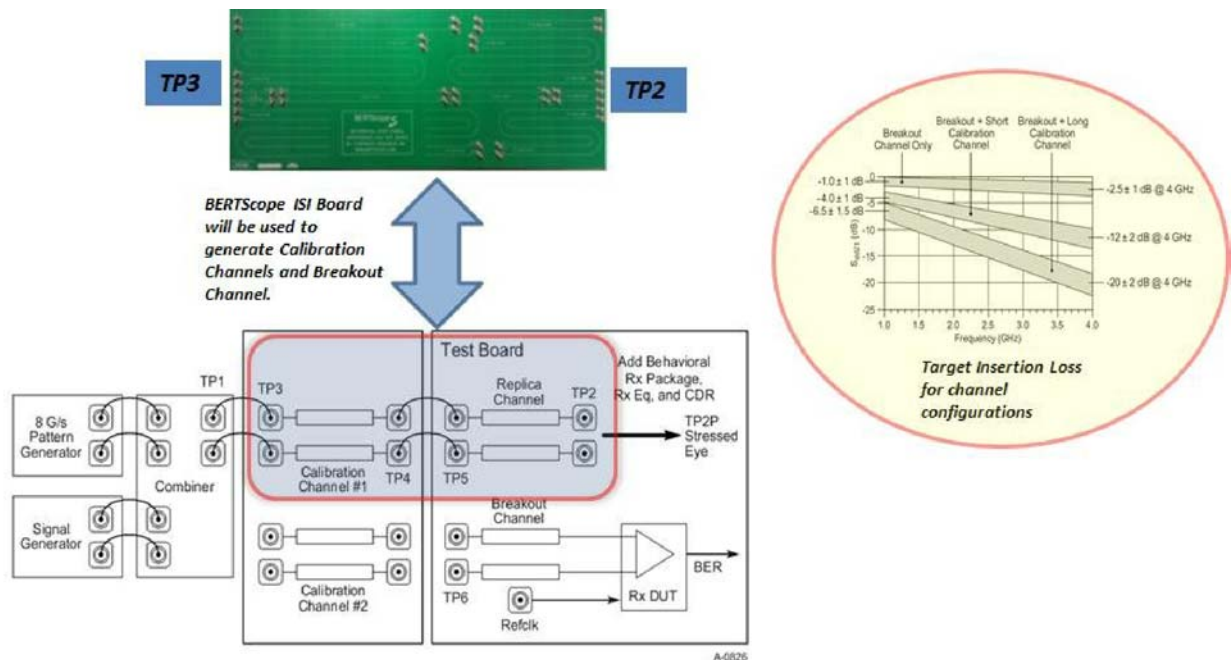

Figure 47: Calibration Channels.
- b. View the R_J (RMS) value reported by SIGTEST. See Figure 47.